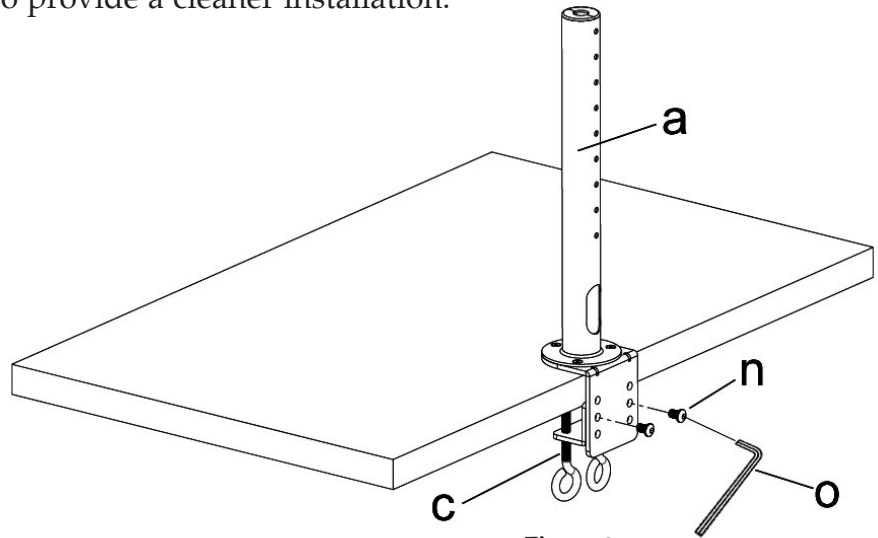

Figure 2
2. Install the C-clamp (c) to the 48mm Tube Support assembly according to the thickness of the desktop. The thickness can be changed in three positions. Connect it using 2 M10x15 Bolts (n) and tighten using the Allen Key (o). Tighten the C-clamp to the desktop using the 2 eye bolts, see Figure 2.